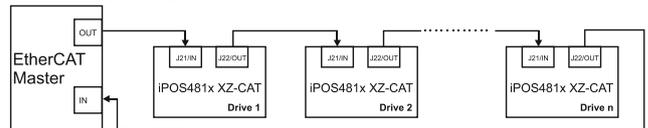

Figure 35. EtherCAT network ring topology
- Ring, when the J7 / OUT port of the last drive in the chain is connected back to the master controller, on the 2nd port of the master. This topology consists of the linear topology described above, plus an extra connection between the master, which has two RJ45 ports, to J7 / OUT of the last drive. See **Figure 35. EtherCAT network ring topology** for a visual representation of the ring topology.